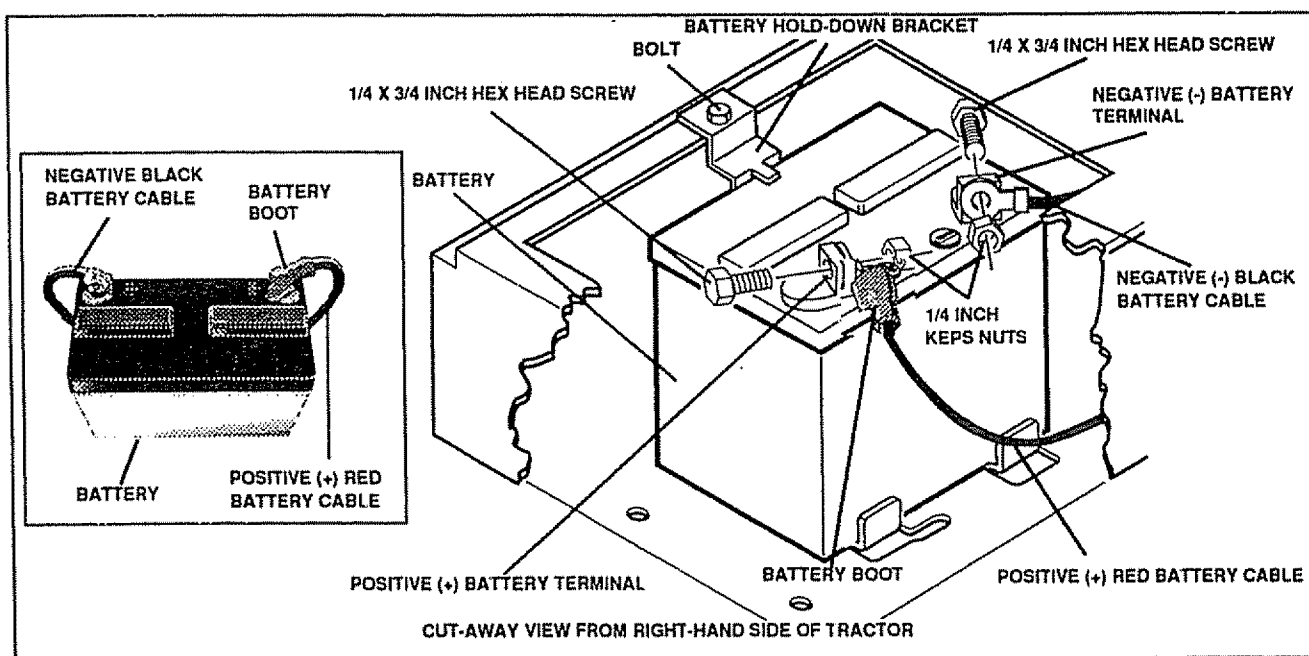

FIG. 6
REINSTALL CHARGED BATTERY (See FIG. 6)
- Place battery boot over positive (+) battery terminal (see Fig. 6 inset).